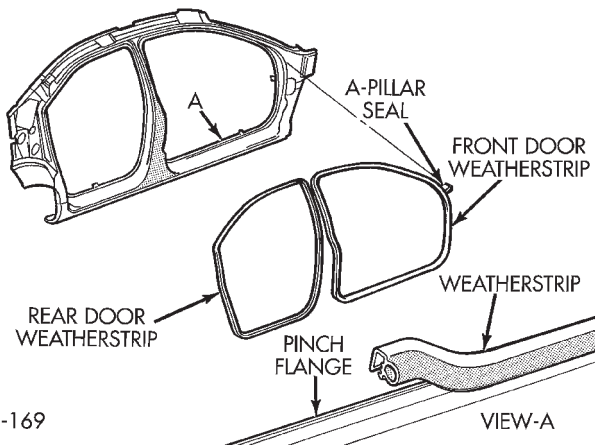

Fig. 70 Door Opening Weatherstrips
(1) Open door.
(2) Remove door sill scuff plate.
(3) Pull weatherstrip from pinch flange around door opening (Fig. 70).